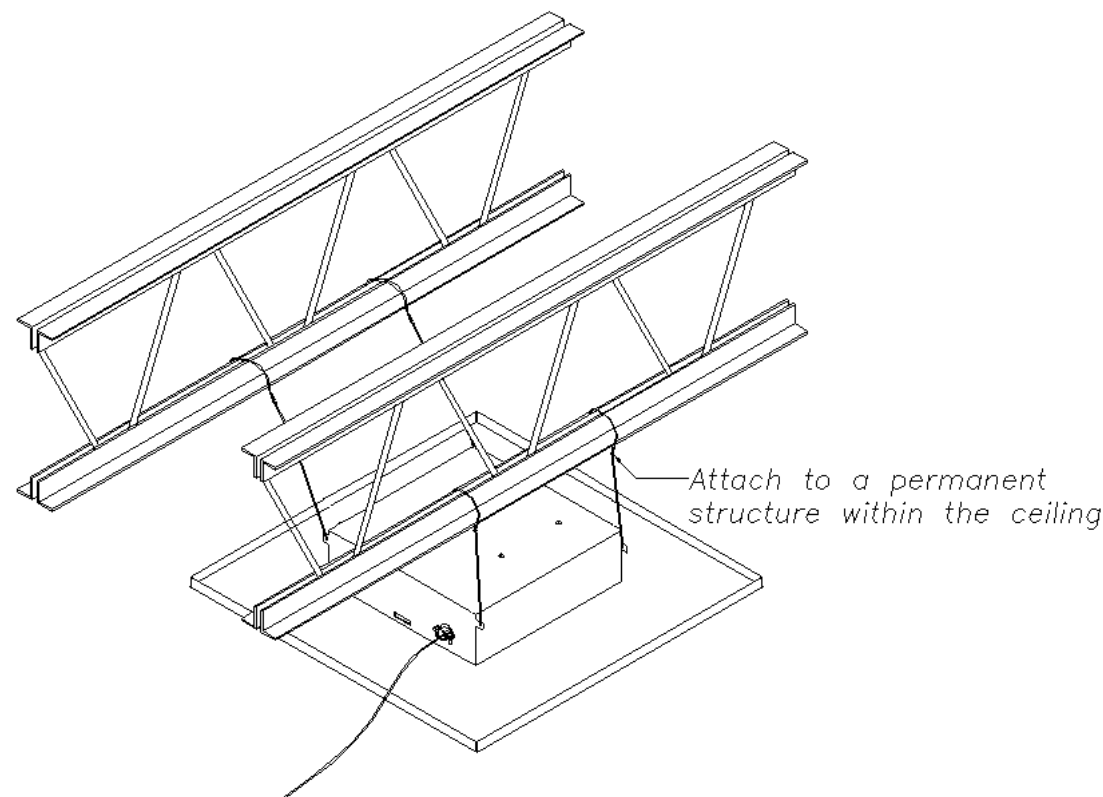

Figure 4
Step 4 – Use minimum 12-gauge support wire (included) to support the access point enclosure independently of the ceiling grid. Attach one end of the wire to the support wire tabs located along the edge of the back box and the other end to a permanent supporting structure within the ceiling such as a ceiling joist (Figure 4).